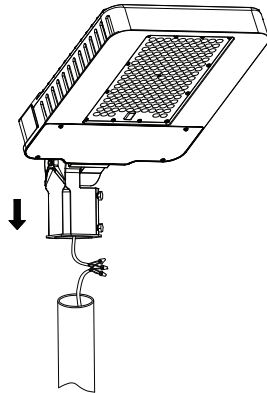

FIG. 8
- Connect the power lead properly, Make wiring connection (see **WIRING**) and lay the wires in the pole, insert the slipfitter to the pole (see **FIG.8**).